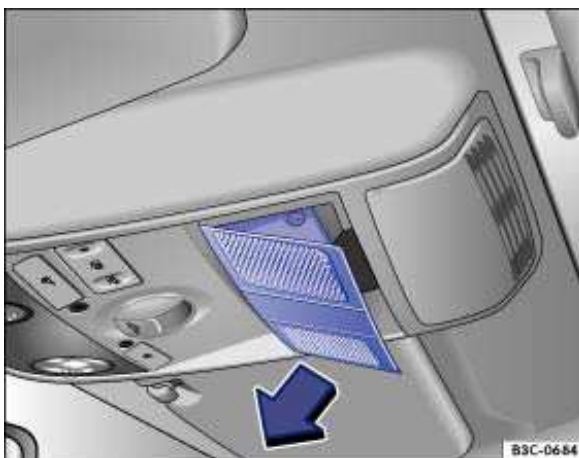

Fig. 165 In headliner: Removing cover.
1. Remove the cover in direction of the arrow ⇒ fig. 165.